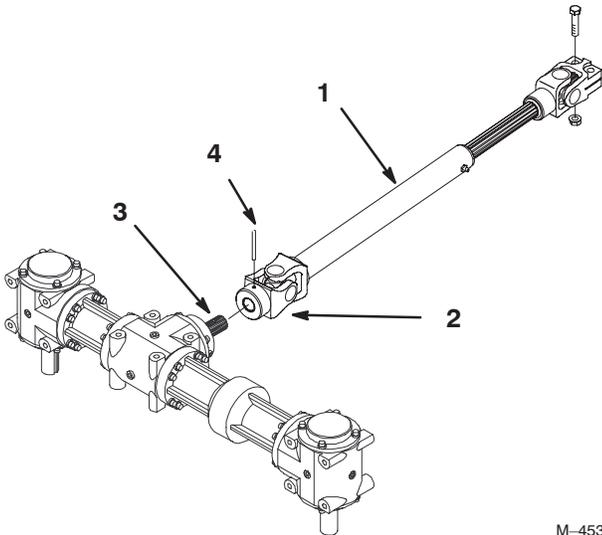

Figure 33
9. Rotate PTO drive shaft so holes align with hole in gearbox shaft and slide together (Fig. 33).
10. Drive roll pin through hole to secure PTO drive shaft to gearbox shaft (Fig. 33).